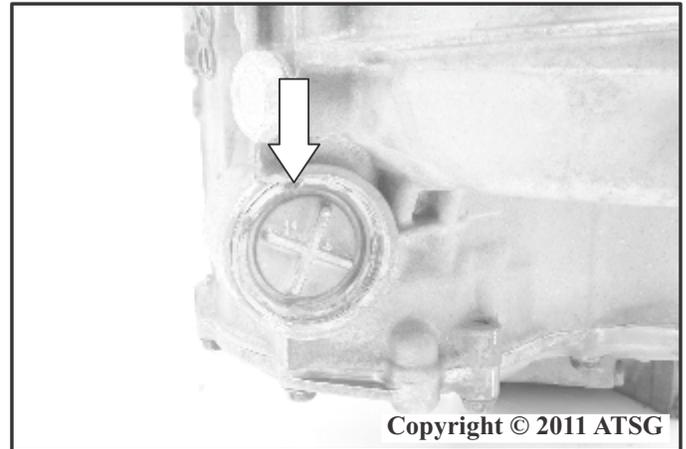

Figure 226
40. Install the servo assembly into the case then install and tap the cover into the case using a soft faced mallet and install the retaining snap ring as shown in Figure 226.